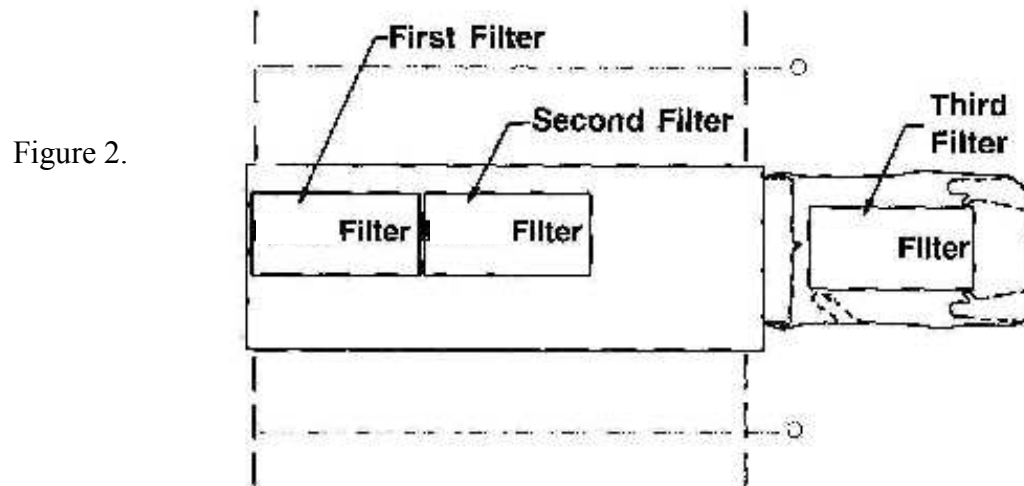

Figure 2.
- 5.4.9 Pull filter as far as possible out into extended bag as seen in Figure 2 below.